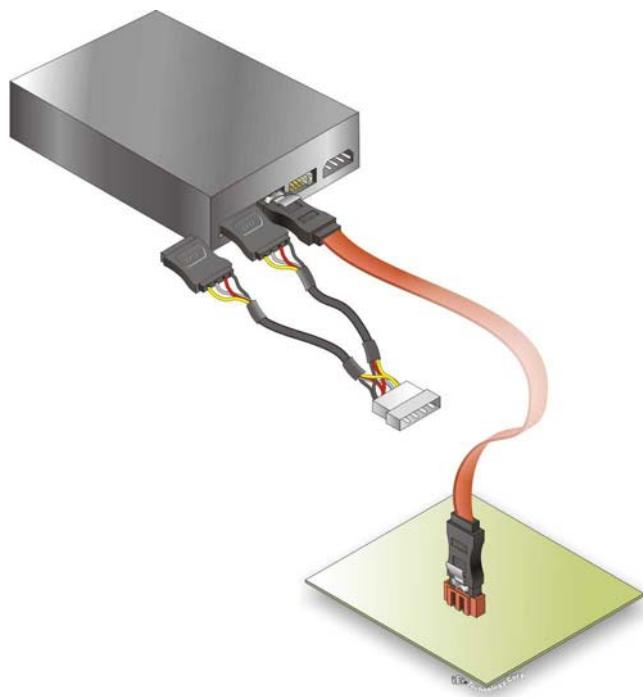

Figure 4-9: SATA Power Drive Connection
Step 3: Connect the cable to the SATA disk. Connect the connector on the other end of the cable to the connector at the back of the SATA drive. See **Figure 4-9**.
Step 4: Connect the SATA power cable. Connect the SATA power connector to the back of the SATA drive. See **Figure 4-9**.